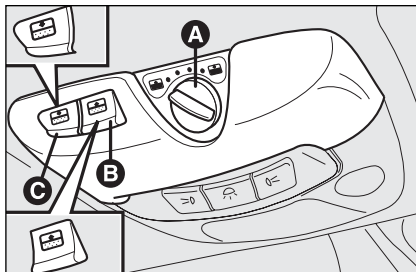

fig. 81
With blades and curtain open (knob **A**-fig. 81 on fifth click), blades closing is not affecting the curtain.
To open the curtain press button **C**-fig. 81.
To close the curtain press button **B**-fig. 81.
IMPORTANT Turning the ignition key to **STOP** after having operated one of buttons **B**-fig. 81 or **C**, the selected operation will be completed.
- turn knob **A-fig. 81** to “0” (fully closed);
In this case it is possible to inhibit the anti-crushing system by closing the roof (within 5 seconds from system activation), turning knob **A**-fig. 81 to **0** and keeping it pressed upwards until closing.